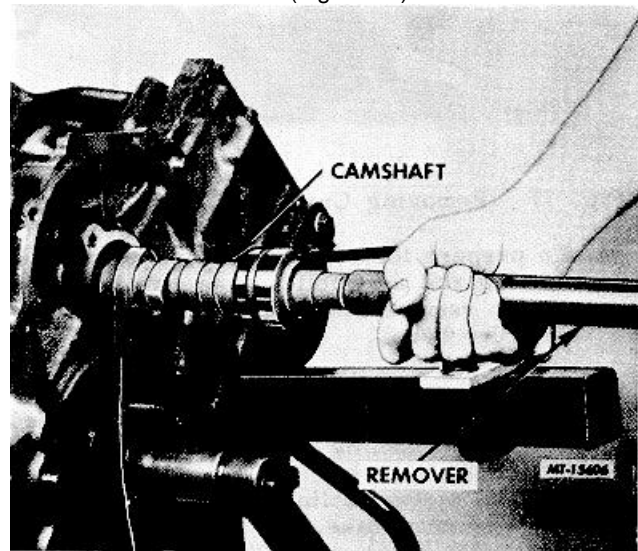

Fig. 75 Removing Camshaft
c. Install remover tool SE-1880 on threads of camshaft and remove camshaft (Figure 75).